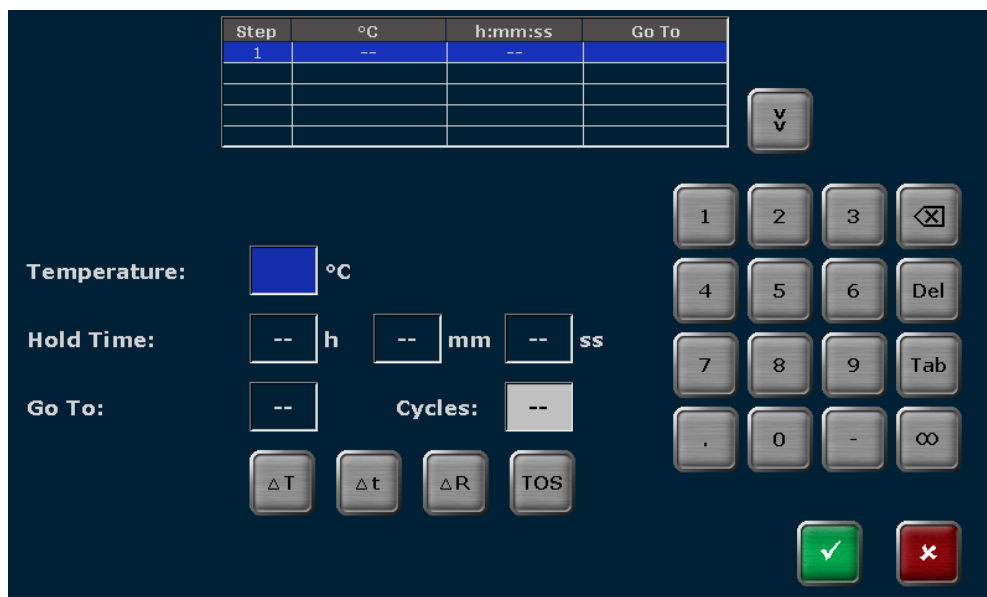

Figure 22 Biometra TRIO edit step screen
2. To edit all parameters in a program step the software offers the edit step screen (see Figure 22). Furthermore, in this screen it can be switched between steps and parameters entered for multiple steps (Multi Step Programming).
The currently activated step is high-lighted in the program overview table (see Figure 22).
To program a loop select the LAST STEP of the cycle and enter the step number the program shall go back to in the input box GOTO (see Figure 22). To define the number of repeats, enter a number in the input box CYCLES.
For some applications, like for example touch down PCR, temperature increments are used. The temperature is increased or decreased with each cycle by the set value. To program a temperature increment press the following button (see Figure 22) and fill in a value between +20°C and -20°C in the corresponding input box.
For some applications, like for example long range PCR, time increments are used. The time is increased with each cycle by the set value. To program a time increment press the following button (see Figure 22) and fill in a value between 0s and 240s in the corresponding input box.